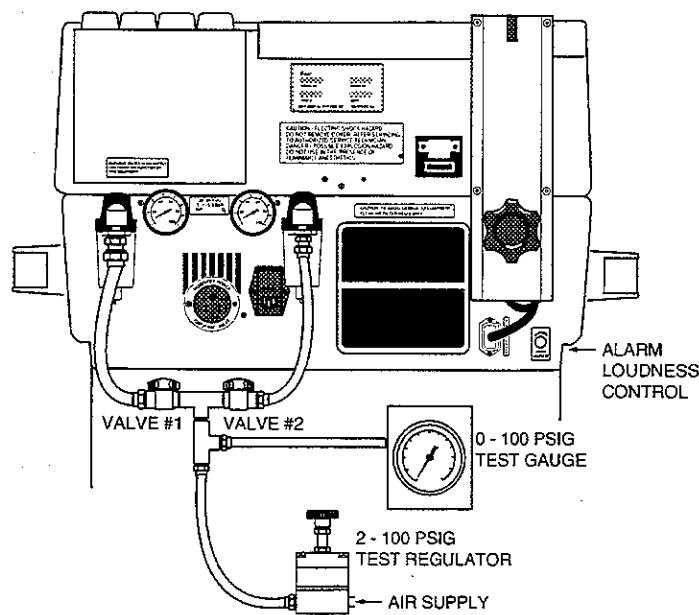

Figure 3-5
1. Connect the ventilator as shown in Figure 3-5.